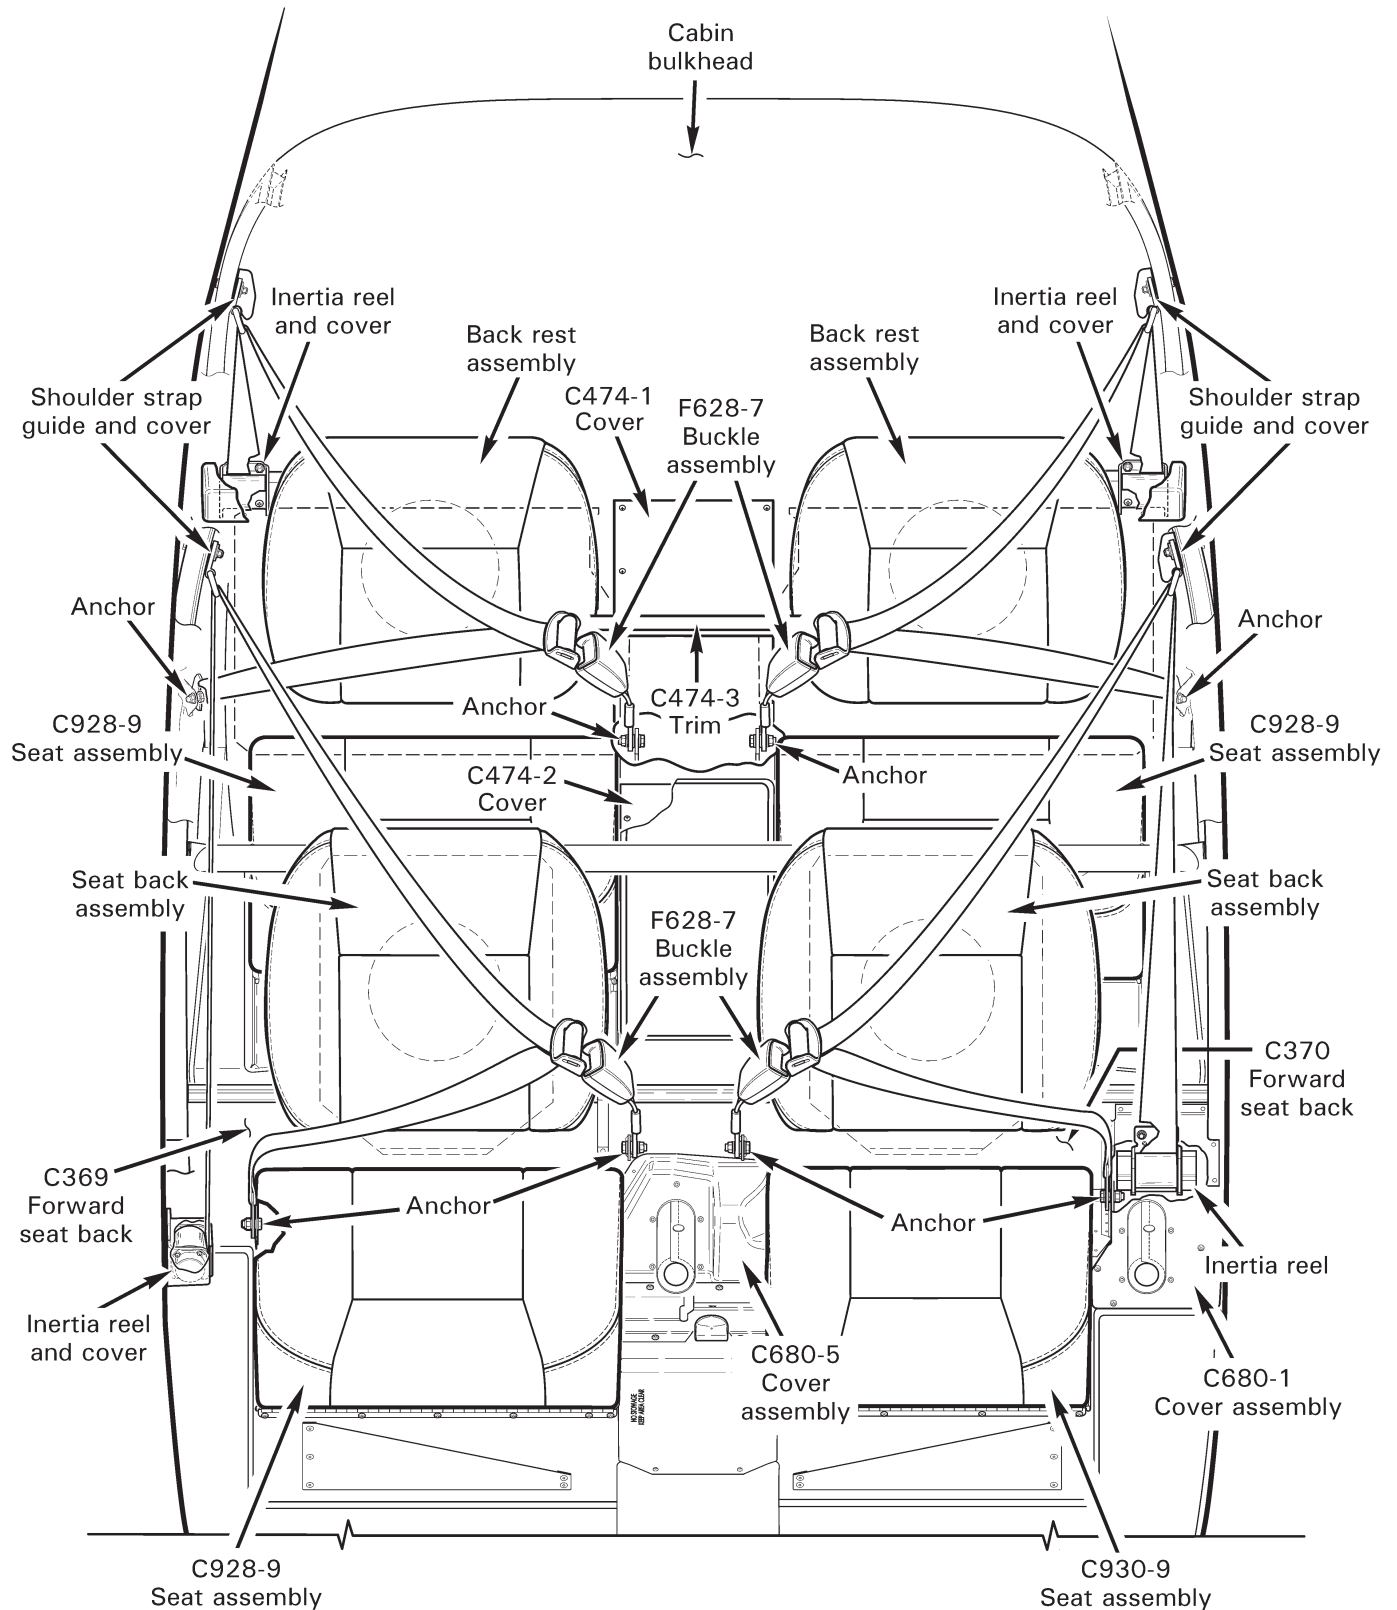

FIGURE 15-1 SEAT HARNESSES, SEAT ASSEMBLIES, AND BACK RESTS
1. Refer to Figure 15-1. As required, remove C680-1 (removable collective) cover assembly. Hinge seat assembly forward.
1. Refer to Figure 15-1. Install hardware securing inertia reel to cabin and install reel cover. Verify security.
2. Refer to Figure 15-1. Remove hardware securing seat assembly hinge to seat box and remove seat assembly.
2. Refer to Figure 15-1. Position seat assembly on seat box and install hardware securing hinge to seat box. Verify security.
1. Refer to Figure 15-1. Remove hardware securing C474-1 cover, C474-3 trim, and C474-2 cover to cabin. Remove covers and trim.
2. Refer to Figure 15-1. Drill out rivets securing back rest assembly cushion to back rest panel and remove cushion. Deburr holes.